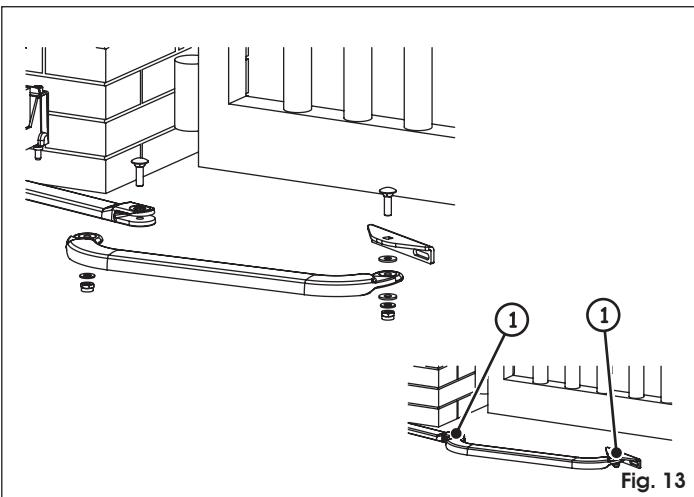

Fig. 13
7. Assemble the rest of the arm as illustrated in Fig. 13.
**⚠ For correct operation, tighten the two securing screws (Fig. 13 ref. ①) and then loosen them by about 1/2 turn to enable rotation without any friction on the arms.**